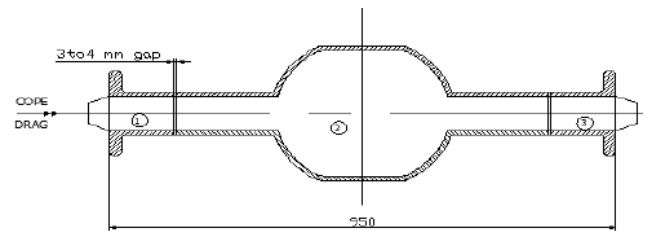

Fig. 16
2.4.2 Pattern design/mounting innovation to adjust contraction where trials are required for ascertaining final percentage. Case study of 180 kg Axle Housing – integral with barrels (S.G. Iron) pattern split into 3 parts along length (Fig. 16).